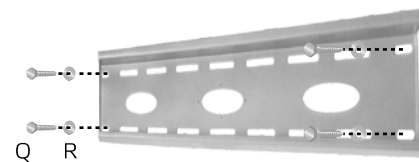

Figure 1 – Attach wall plate to wall.
4. Attach wall plate using lag bolts (Q) through lag bolt washers (R). Do not over tighten. See Figure 1.